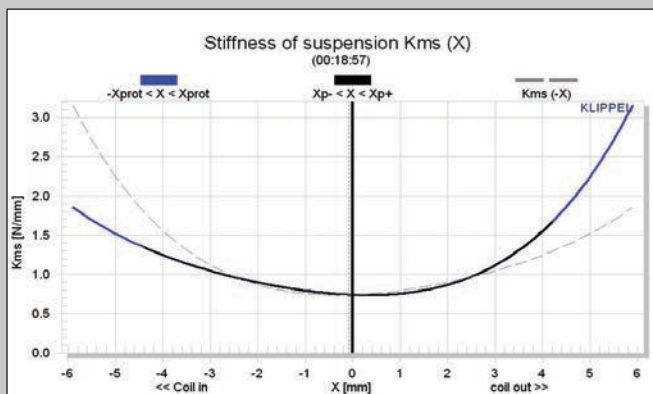

Figure 7: Klippel Analyzer mechanical stiffness of suspension Kms (X) curve for the Fountek FR89EX
Figures 7 and 8 show the Kms(X) and Kms Symmetry Range curves for the Fountek full-range driver. The Kms(X) curve is also somewhat asymmetrical, and has a very minor forward (coil-out) offset of about 0.3 mm at the rest position, decreasing